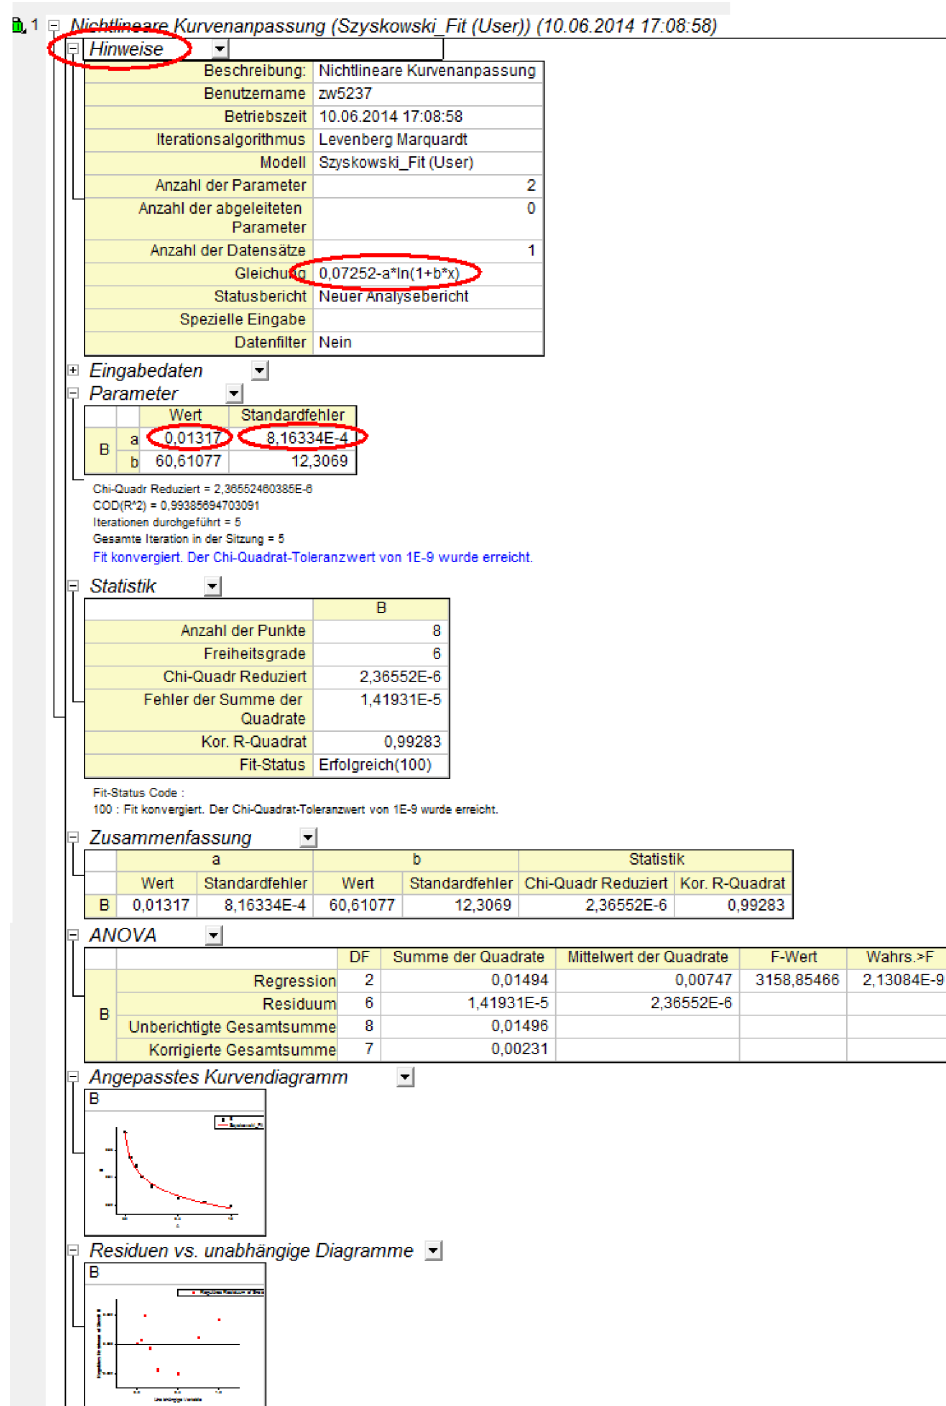

Fig. 8:
- As the fit converged successfully **Fit konvergiert** press ► **OK**. You proceed to the fit results with parameters  $a$  and  $b$  with their errors. Open in the menu ► **Hinweise**, to display the fit function. Below that you find a graph, which can be magnified bei double clicking (Fig. 8).